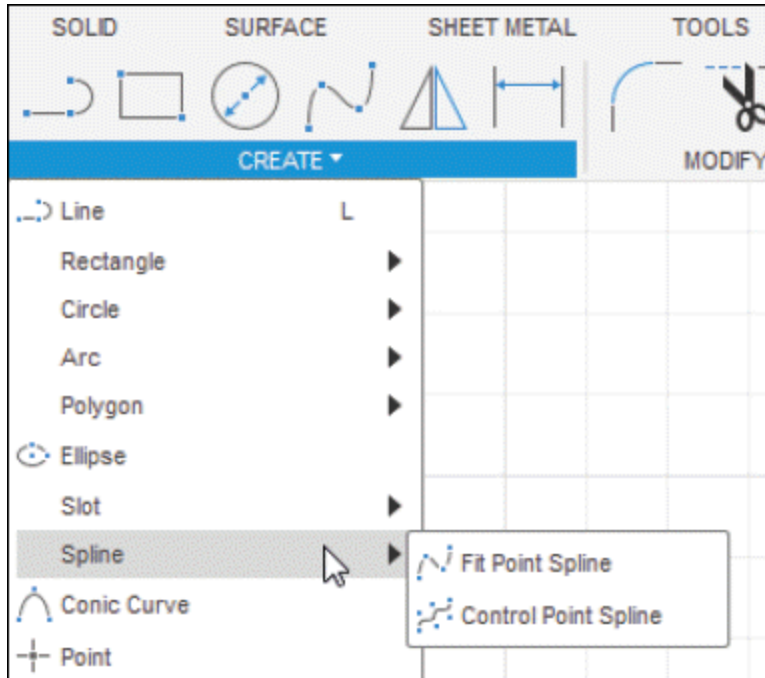

Figure-37. Spline cascading menu
The **Spline** tools are used to create spline curves. There are two tools in **Spline** cascading menu; **Fit Point Spline** and **Control Point Spline**; refer to Figure-37.
- Click **Fit Point Spline** tool of **Spline** cascading menu from **CREATE** drop-down in the **Toolbar**; refer to Figure-37.
- Click on **Control Point Spline** tool of **Spline** cascading menu from **CREATE** drop-down in the **Toolbar**; refer to Figure-37.